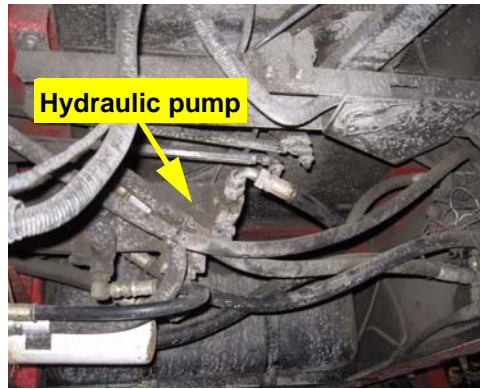

Figure 3a: Pressure location
- a. The automated steering block receives pressure from the hydraulic pump located under the center of the cab (Figure 3a).